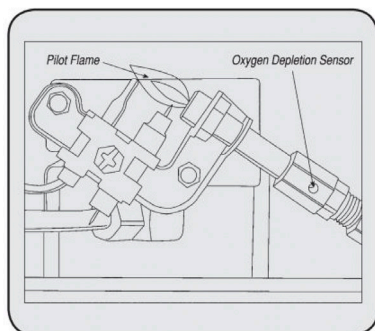

Figure 5
- Visually inspect the pilot flame and burner periodically during use. The pilot flame should be blue in color (not yellow) and will extend to the thermocouple. The flame will surround the thermocouple just below the tip. See Figure 5.
2. Remove (4) four screws that secure the rear cover to the heater.
4. Remove (4) four burner retaining screws and fuel line from burner assembly. Remove burner assembly from back of housing.
6. Inspect and clean main burner orifice (threaded into orifice holder). Orifice holder is attached to the burner assembly venturi with (2) two screws.
7. Inspect and clean pilot (mounted to bracket) by using a vacuum or apply air pressure through the holes in the pilot indicated by the arrows in Figure 5.